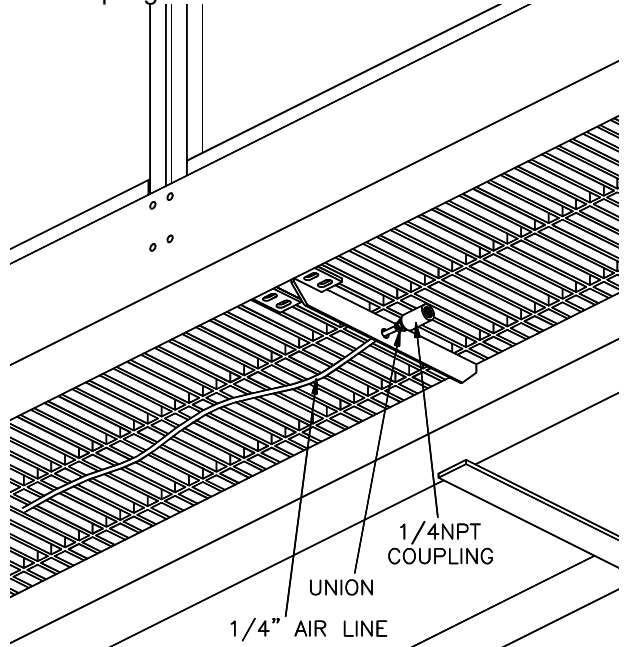

Fig 35 – Air Line Coupling (bottom view, left runway)
- 62) Route two (2) air lines from each bracket assembly, one for each runway, under the catwalk grating and cut just past the fourth grating support bracket (approximately 12 ft. from front of runway), **Fig 35**. Route air line through hole in center of grating support brackets. Attach union fitting and 1/4NPT pipe coupling to loose end.